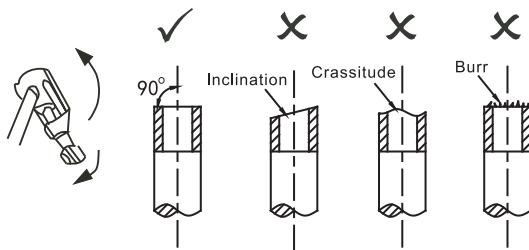

Figure 5.4
1) Cut off pipe with a pipe cutting knife (See Figure 5.4).